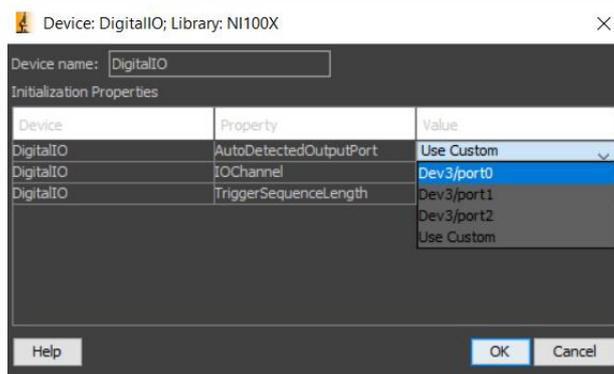

Figure 6: Configuring the pE-6501 requires knowing the correct port
- Configure the pE-6501 by selecting the correct the Output Port, and also typing this into IOChannel (Figure 6). To determine the correct parameters here requires opening the NI Device Manager program installed on Windows alongside the NI Driver.
e. If the LEDs do not illuminate, select 'port1' under '1. Select Port' and repeat steps 'c' and 'd'. Then repeat with port2 selected. The port selected when the LEDs illuminate when set to 'All High' is the port to include in Figure 6.